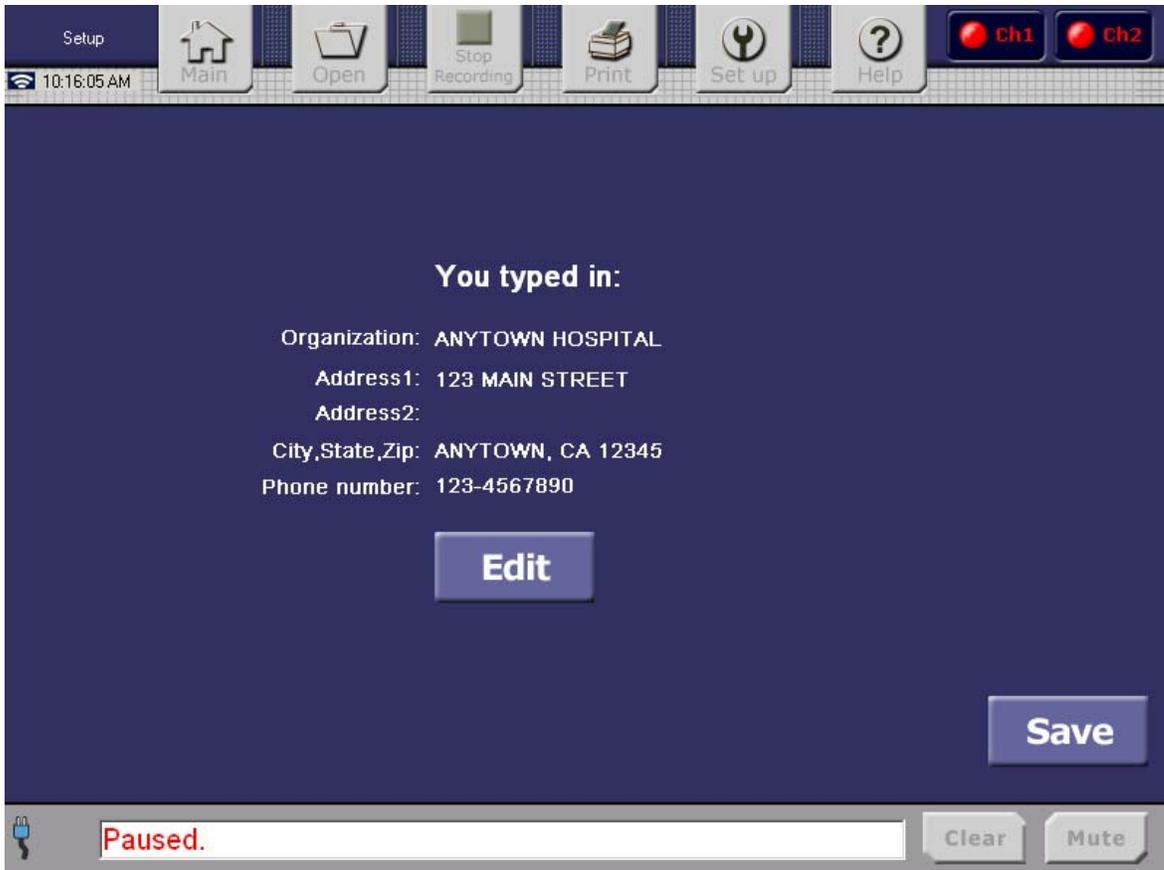

Figure 31. Organization Information Confirmation
6. You will see a confirmation screen (Figure 31), displaying the Organization information that you entered.